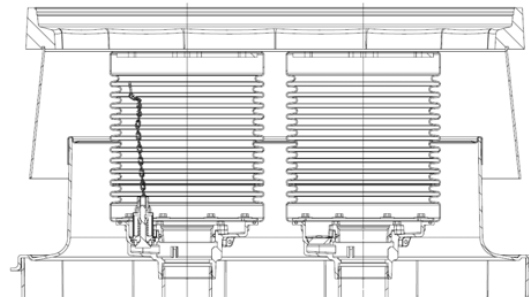

Figure 36
59. Using the 1-3100—TOOL (61SA—TOOL for P7XX or P5XX), tighten the spill container(s) onto the riser(s) with a minimum torque of 125 ft.-lbs. and a maximum torque of 250 ft.-lbs. See Figure 36.